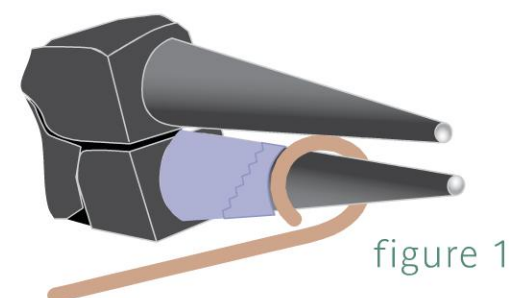

figure 1
- 5 Use the permanent marker to mark the wire where the flush cut touches the wire's neck. Add some masking tape at the mark (Figure 1).